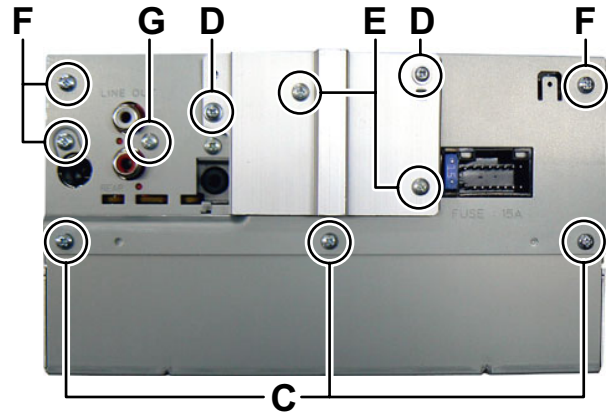

Fig.3
- (2) Remove the three screws **C** attaching the Bottom chassis. (See Fig.3)
- (3) Remove the two screws **D** and two screws **E** attaching the Heat sink. (See Fig.3)
- (4) Remove the three screws **F** and one screw **G** attaching the Rear bracket. (See Fig.3)